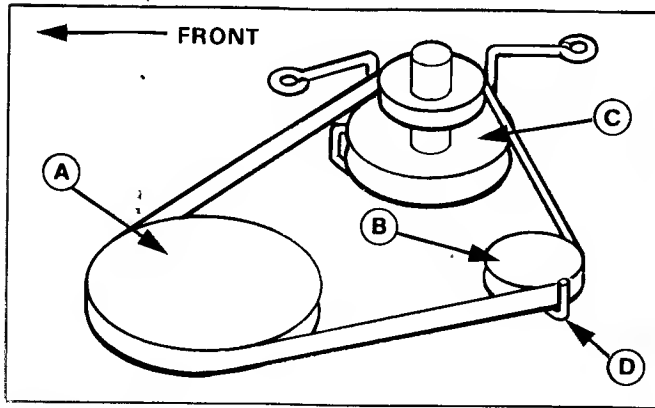

Figure 16.
2. Slip the belt off the pulleys (figure 16) loosening the belt guide as necessary.
3. Install the new belt as shown in figure 16, making sure there are no twists in the belt.